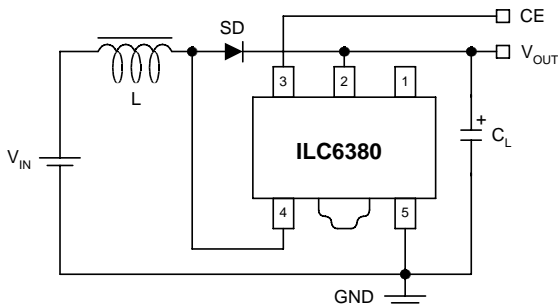

Figure 3
$V_{OUT} = 5.0\text{V}$, $F_{OSC} = 100\text{kHz}$, $T_A = 25^\circ\text{C}$. Unless otherwise specified, $V_{IN} = V_{OUT} \times 0.6$, $I_{OUT} = 50\text{mA}$. See schematic, figure 3
- The Schottky diode (S.D.), in figure 3 must be type MA735, with Reverse current (IR) < 1.0 μA at reverse voltage (VR)=10.0V
- The Schottky diode (S.D.), in figure 3 must be type MA735, with Reverse current (I_R) < 1.0 μA at reverse voltage (V_R)=10.0V